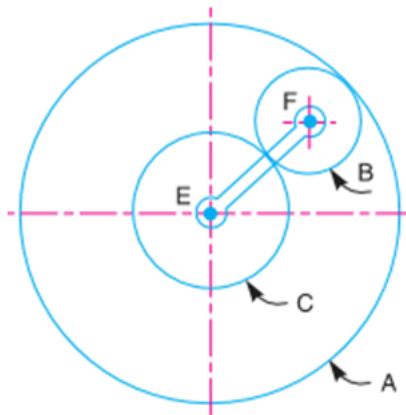

Figure 3
- (b) An epicyclic gear consists of 3 gears A, B and C as shown in Figure 3. The gear A has 72 internal teeth and gear C has 32 external teeth. The gear B meshes with both A and C and is carried on an arm EF which rotates about the Centre of A at 18 rpm. If the gear A is fixed, determine the speed of gears B and C. [BL: Apply| CO: 5|Marks: 7]